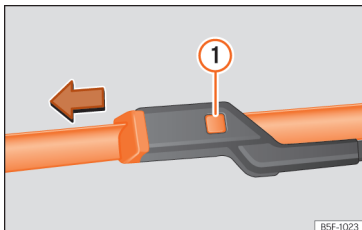

Fig. 40 Changing the windscreen wiper blades
- Press and hold release button » » Fig. 40 **1** and pull gently on the wiper blade in the direction of the arrow.